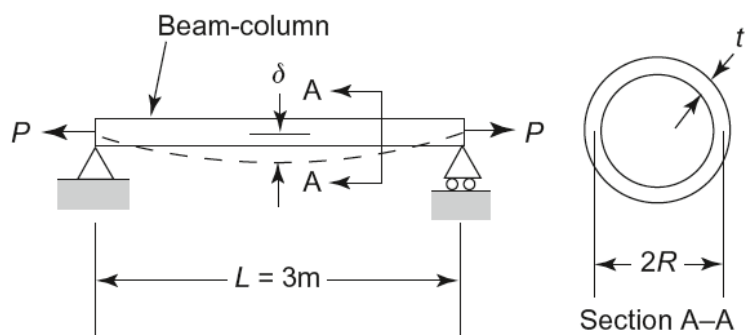

FIGURE E2.24 Graphic of a hollow circular beam-column.
Design a hollow circular beam-column, shown in Figure E2.24, for two conditions: When the axial tensile load $P=50$ (kN), the axial stress σ must not exceed an allowable value σ_a , and when $P=0$, deflection δ due to self-weight should satisfy the limit $\delta \leq 0.001L$. The limits for dimensions are: thickness $t=0.10$ to 1.0 cm, mean radius $R=2.0$ to 20.0 cm, and $R/t \leq 20$ (AISC, 2005). Formulate the minimum-weight design problem and transcribe it into the standard form. Use the following data: deflection $\delta=5wL^4/384EI$; w =self-weight force/length (N/m); $\sigma_a=250$ MPa; modulus of elasticity $E=210$ GPa; mass density of beam material $\rho=7800$ kg/m³; axial stress under load P , $\sigma=P/A$; gravitational constant $g=9.80$ m/s²; cross-sectional area $A = 2\pi Rt$ (m²); moment of inertia of beam cross-section $I=\pi R^3t$ (m⁴). Use Newton (N) and millimeters (mm) as units in the formulation.
Given: The maximum and minimum dimensions of t and R and the maximum ratio for R/t , the equations to calculate displacement, δ , axial stress, σ , cross-sectional area, moment of inertia, and the distributed force, w , the allowable axial stress, the modulus of elasticity, the mass density of the beam material, the gravitational constant, and the data shown in Figure E2.24. In addition, when $P=50$ kN, the stress must not exceed σ_a and when $P=0$ kN, deflection due to self-weight must satisfy $\delta \leq 0.001L$.
Required: It is desired to create a beam design, as shown in Figure E2.24, which will minimize the mass of the beam, under the two conditions described above.